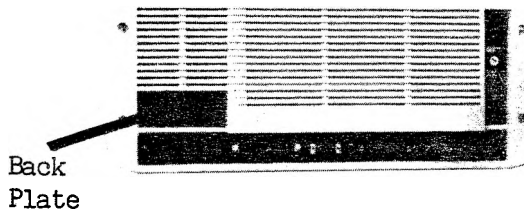

Figure4-2 Removable back plate on the Victor computer
- 3) Remove the small plate on the lower left hand corner of the rear panel of the Victor 9000/Sirius computer (see figure 4-2). Replace this plate with the dual cable connector supplied by Western Automation (the two cables should be inside the computer after doing this).